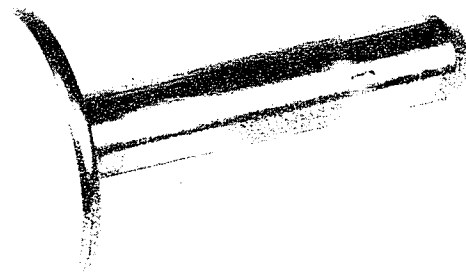

Figure 5-41. Valve lifter.
*Valve Lifter.* In most engines, the camshaft does not push directly on the valve. There are small parts called *lifters* that ride on the cam lobes. The lifters, shown in Figure 5-41, push on the valve stems.